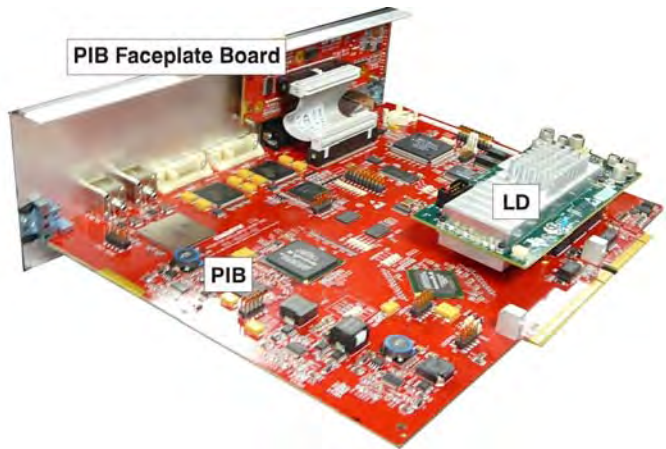

Figure 5-37 PIB, PIB Faceplate and LD
6. Pull the PIB assembly out of the cardcage. (**Figure 5-37**)